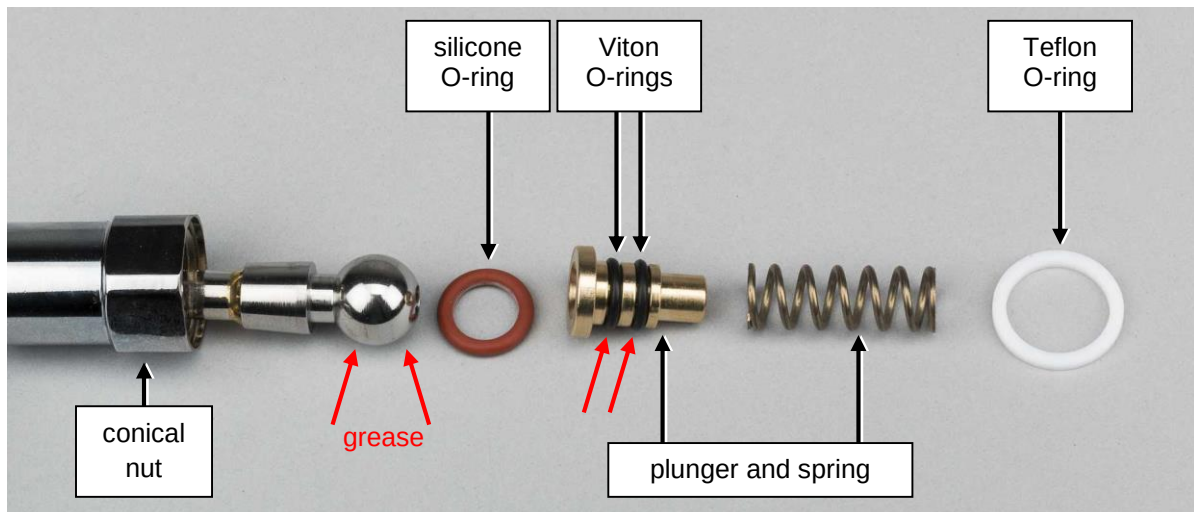

Figure M 4. Steam or hot water wand end with plunger removed. Grease (food-safe) parts as indicated by red arrows.
5. Apply a small amount of grease to both sides of the ball end of the wand and the two Viton O-rings on the brass plunger in the valve (see Figure M 4).